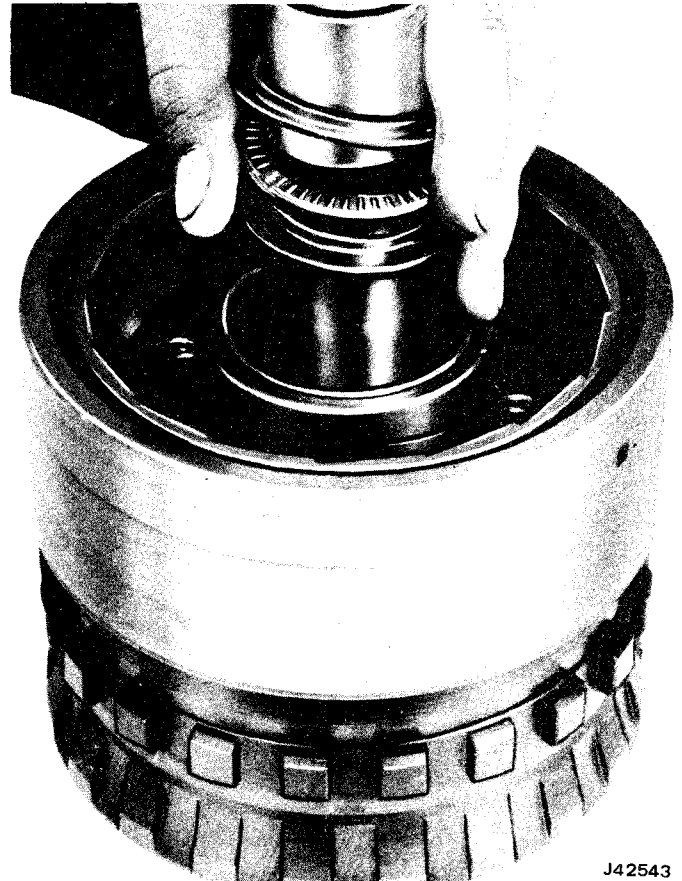

Fig. 2C-142 Installing Center Support-to-Sun Gear Thrust Bearing and Races
(16) Install clutch rollers in roller cage by compressing energizing spring with forefinger and inserting rollers from center-outer side of cage (fig. 2C-143 and 2C-144).
(17) Install roller clutch on reaction carrier outer race (fig. 2C-145).